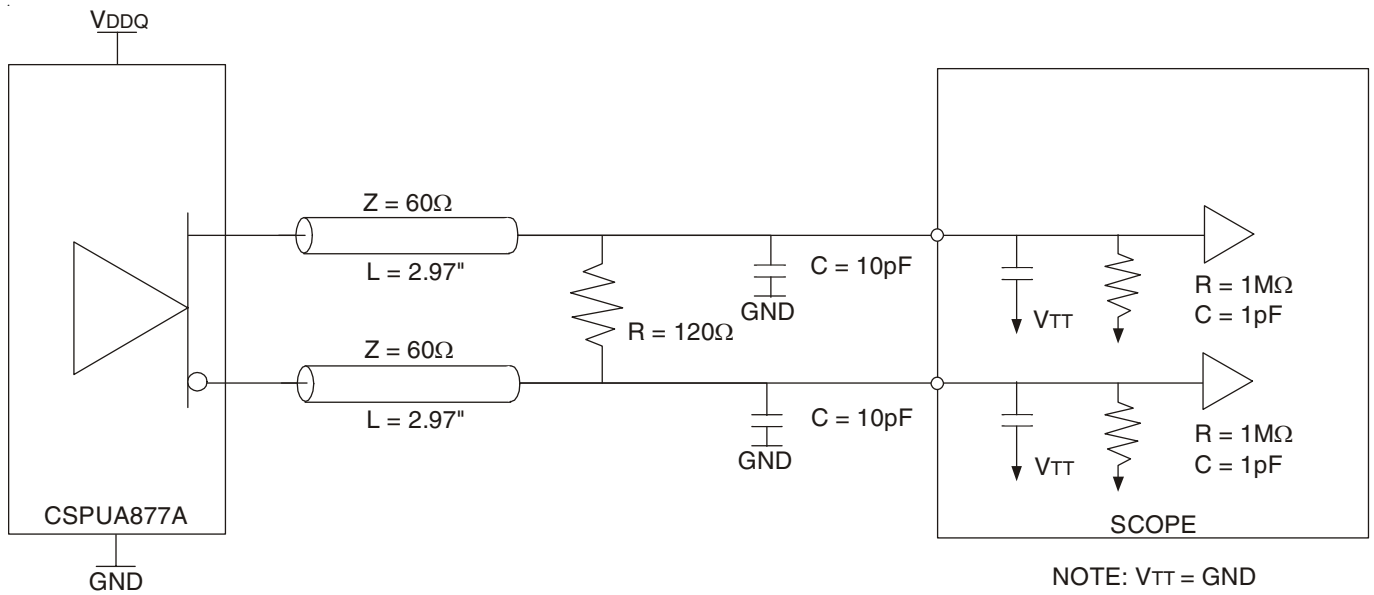

Figure 1: Output Load Test Circuit 1
- There are two different terminations that are used with the above AC tests. The output load shown in figure 1 is used to measure the input and output differential pair cross-voltage only. The output load shown in figure 2 is used to measure all other tests, including input and output slew rates. For consistency, use 50Ω equal length cables with SMA connectors on the test board.
- In the frequency range of 271 - 410MHz, the min and max values for t_{JIT(PER)} and t_{(\emptyset)DYN}, and the max value for tsk(O), must not exceed the corresponding min and max values of the 160 - 270MHz range. Also, the sum of the specified values for | t_{JIT(PER)} |, | t_{(\emptyset)DYN} |, and tsk(O) must meet the requirement for Σt (SU), and the sum of the specified values for | t_{(\emptyset)DYN} | and tsk(O) must meet the requirement for Σt (H).